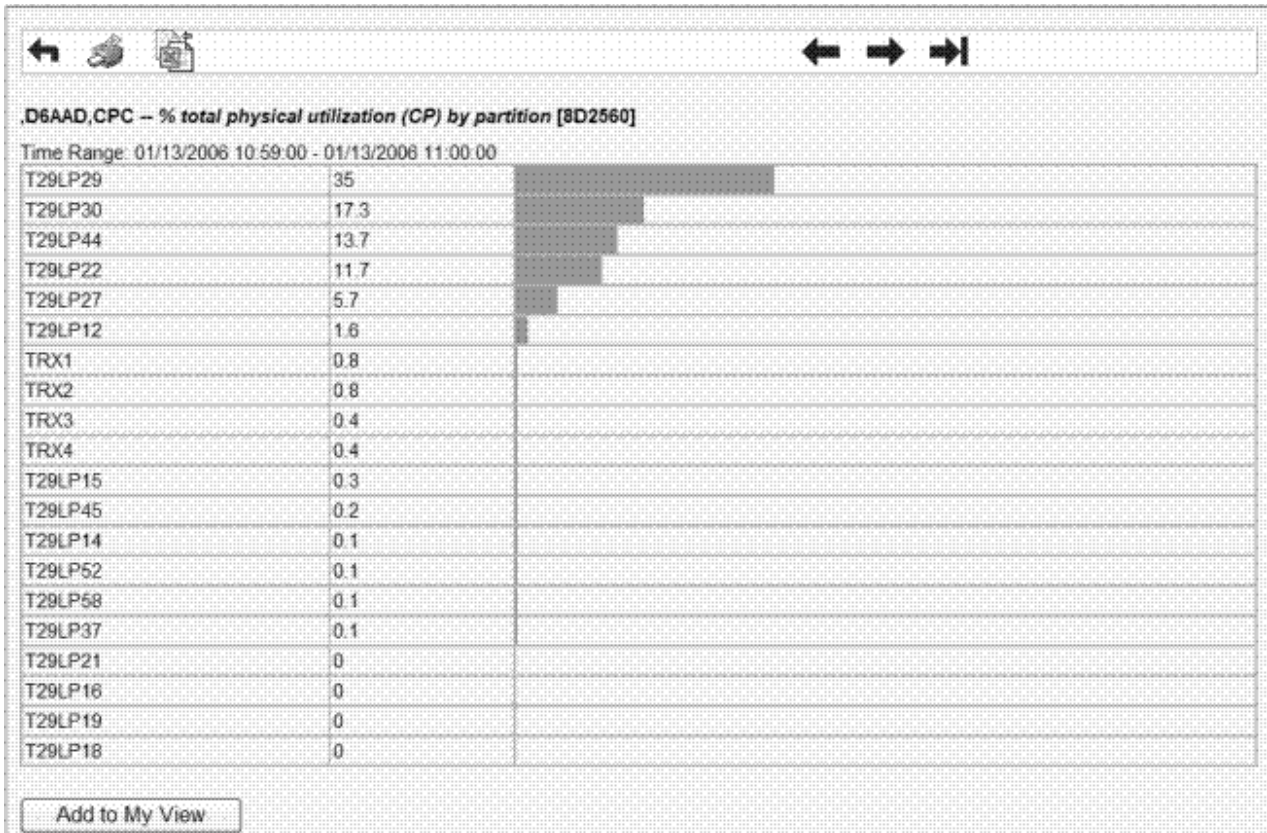

Figure 154. Total utilization of the processors by partitions
If you want to know the total utilization of the physical standard processors by the partitions in the CPC, click on **% total physical utilization (CP) by partition**. Clicking on this metric opens another view presenting the desired results, in our example, a list of partitions, showing the percentage of utilization for each (Figure 154 on page 240).